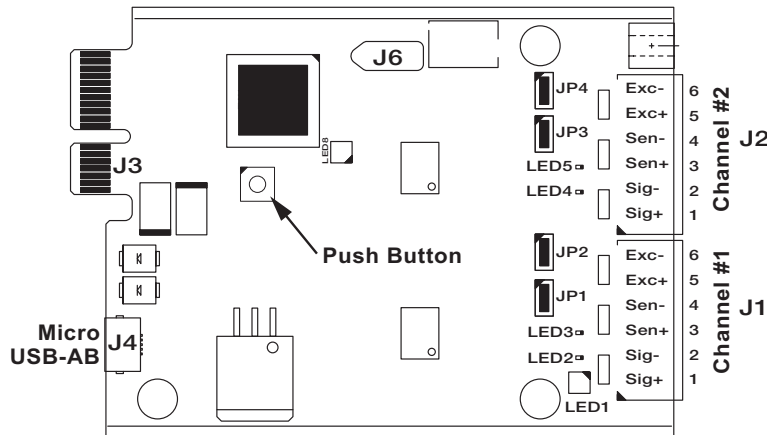

Figure 2. Second Generation Dual A/D Scale Card
8. For Channel 1, wire the load cell cable from the scale to the connector (from the parts kit) for J1 as shown in Figure 2 and Table 3.
9. For Channel 2, wire the load cell cable from the scale to the connector (from the parts kit) for J2 as shown in Figure 2 and Table 3.